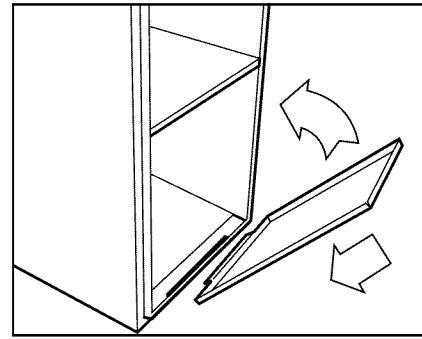

Fig. 33 - Replace Blower Access Panel
7. Replace blower access panel and main furnace door (See Fig. 33 and 34) or filter cabinet door (Fig. 29 and 30).